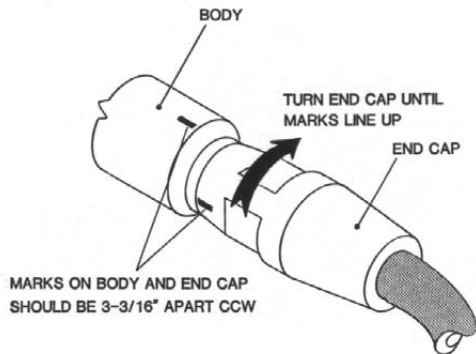

Figure 9-52. Tighten End Cap to Required Torque.
12. Tighten the End Cap to a torque of 750-1000 ft.-lbs (1015-1355 n-m). If a torque wrench is not available, use the following procedure. See Figure 9-52.